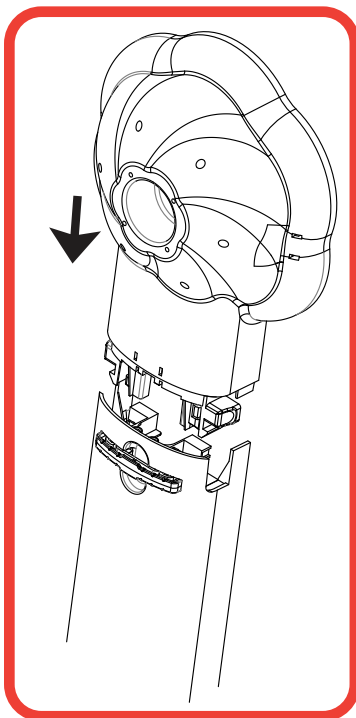

Figure 6a
- 6 Attach each Aqua-Station (C) to lower and upper arms, ensuring that it clicks into locked position (Figure 6a). Secure secondary locking brackets by pushing down on them (Figure 6b).